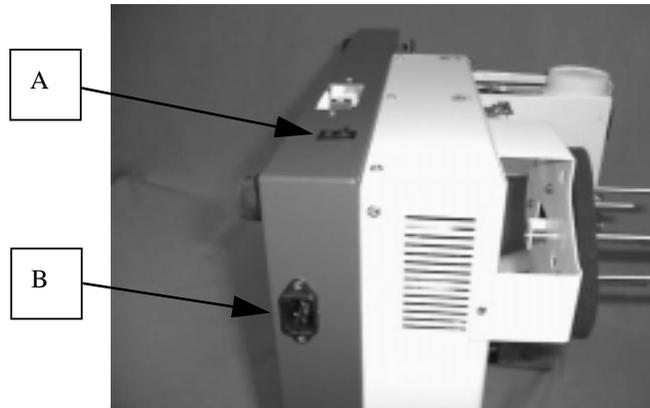

FIGURE 7-1
I. Replace the switch by pushing out the switch from the inside of the base plate. Fig.7-1,7-2
I. Replace the inlet by removing 2 countersunk head screws.(C) Fig.7-1,7-2